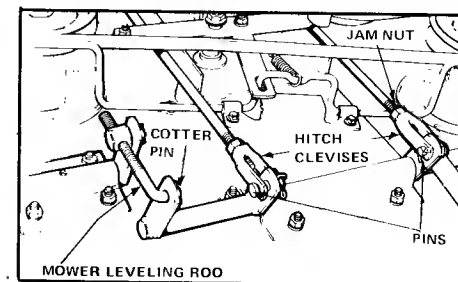

Figure 40. Levelling Mower
5. Remove the cotter pin holding on the mower levelling rod (figure 40). Shorten the rod to raise the left side of the mower, or lengthen the rod to lower the left side of the mower. Put the levelling rod back in its hold and recheck the measurements. When both sides are the same height, replace the cotter pin in the levelling rod.
8. Remove the cotter pins and pins from the hitch clevises (figure 40). Turn each clevis an equal number of turns in the same direction. Shorten the hitch rods to raise the front of the mower, lengthen the hitch rods to lower the front of the mower.